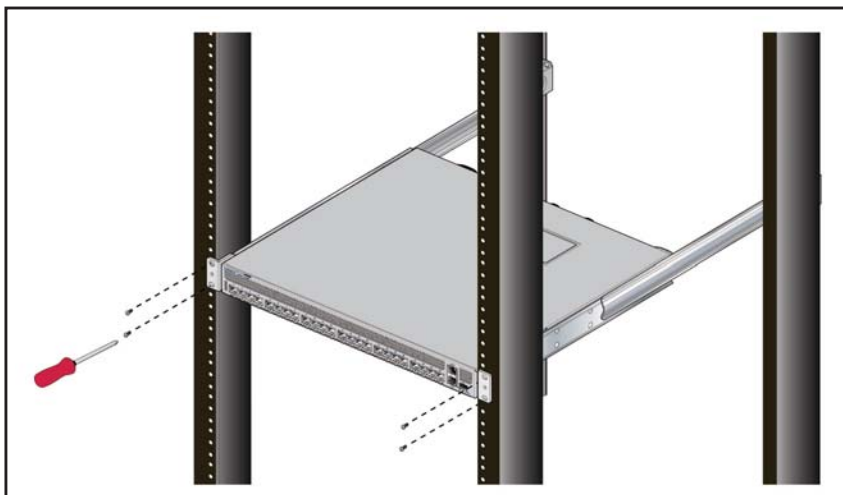

Figure 3-13: Attaching the Switch to the Rack Posts
- Step 5** Attach the bracket flanges to the rack posts (Figure 3-13 on page 13).